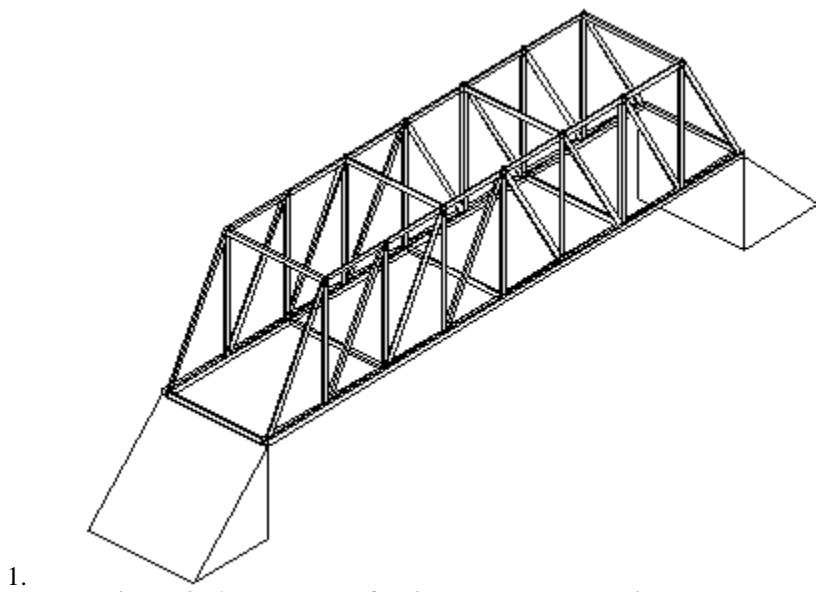

Figure 2: An example of a simply supported bridge.
- F. Do not build your bridges much longer than 36 inches because the bridges will be sitting on simple supports and not on tables. If your bridge is too long the joints will not be resting over the supports and the bridge will probably break rather quickly. See Figure 2 for a diagram of a simply supported bridge.